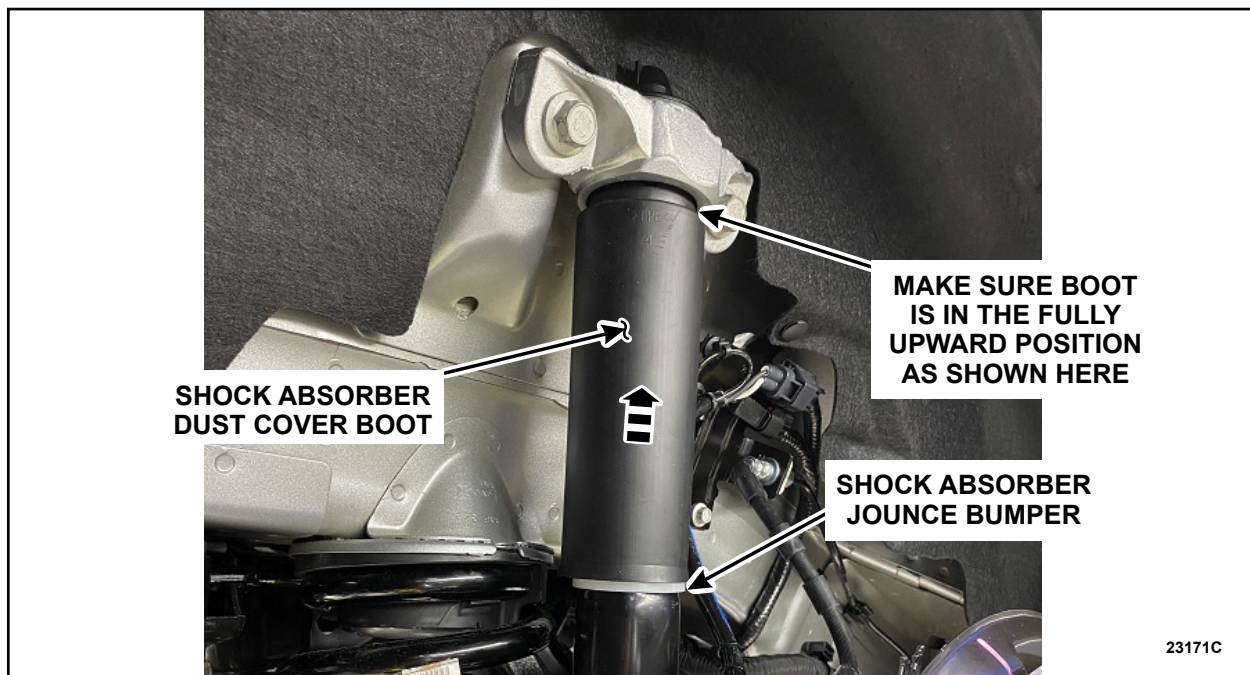

FIGURE 1
3. On both sides, inspect the rear shock absorber assembly dust cover boot and make sure it is in the fully upward position. If not, gently, without distorting the boot, push it upward until end of travel. Note that the white piece extending out from the bottom of the dust boot is the shock absorber jounce bumper. See Figure 1.